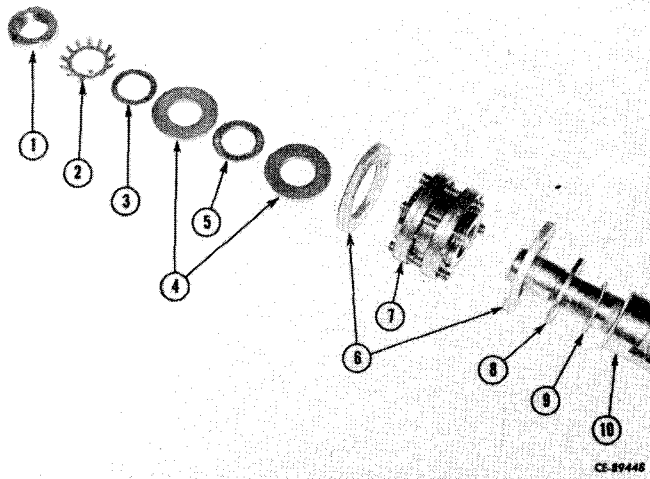

Figure 8-18
Using spanner wrench remove lock nut (1, Fig. 8-18), lock washer (2), washer (3), thrust washers (4 and 8), thrust bearings (5 and 9), centering washers (6) and actuator (7) from cam (10).